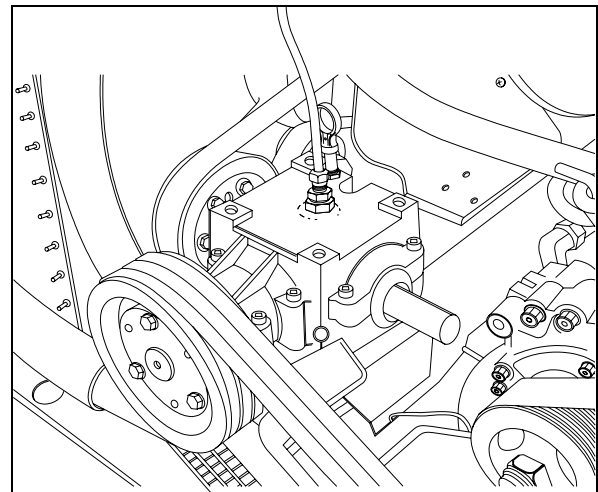

FIGURE 14: FAN GEARBOX 05062
5. Remove the dipstick located on top of gearbox and wipe with a clean rag (Fig. 14).